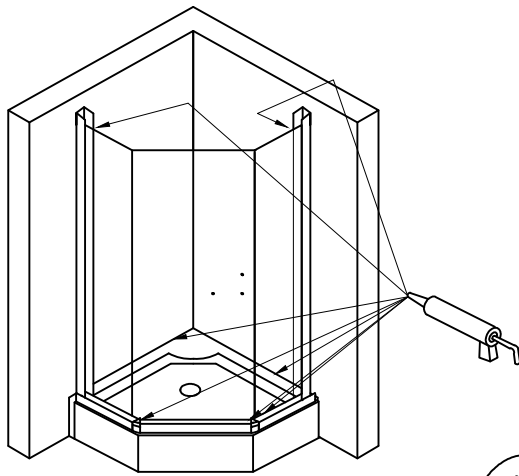

FIG.13
3. Apply clear silicone caulk around the inside perimeter of the bottom rail. [SEE FIG.13]